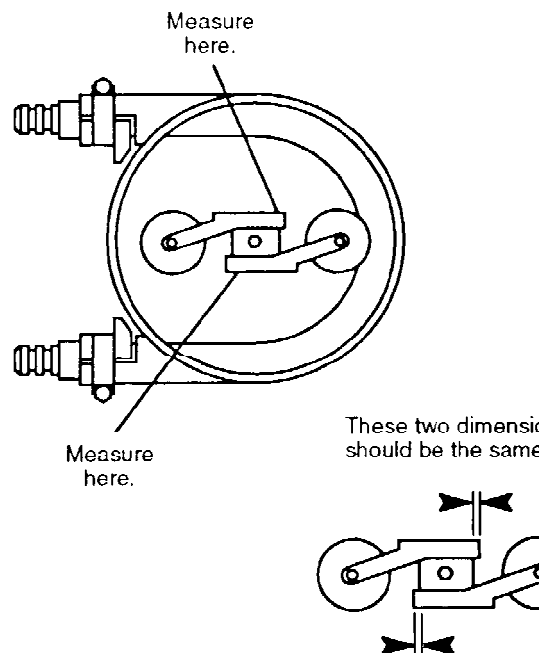

Fig. 8
6. Set the free roller's bracket to the same relative position on the aluminum block as the fixed roller's bracket. See Fig. 8.